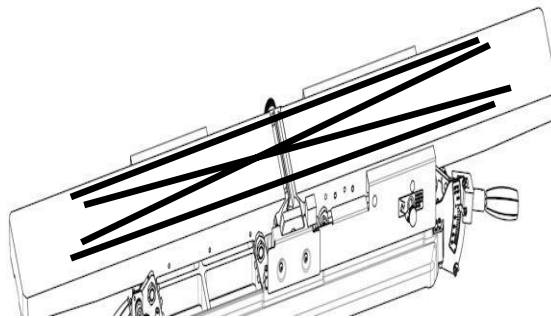

Figure 22: Checking tables for alignment
STEP 4: Place a straight edge across the tables in positions as shown in **FIG. 22**. In each position, the straight edge should rest flat and fit flush with both infeed and outfeed tables (not on an insert knife). If it does not, follow the steps in Outfeed Table and Infeed Table adjustments.